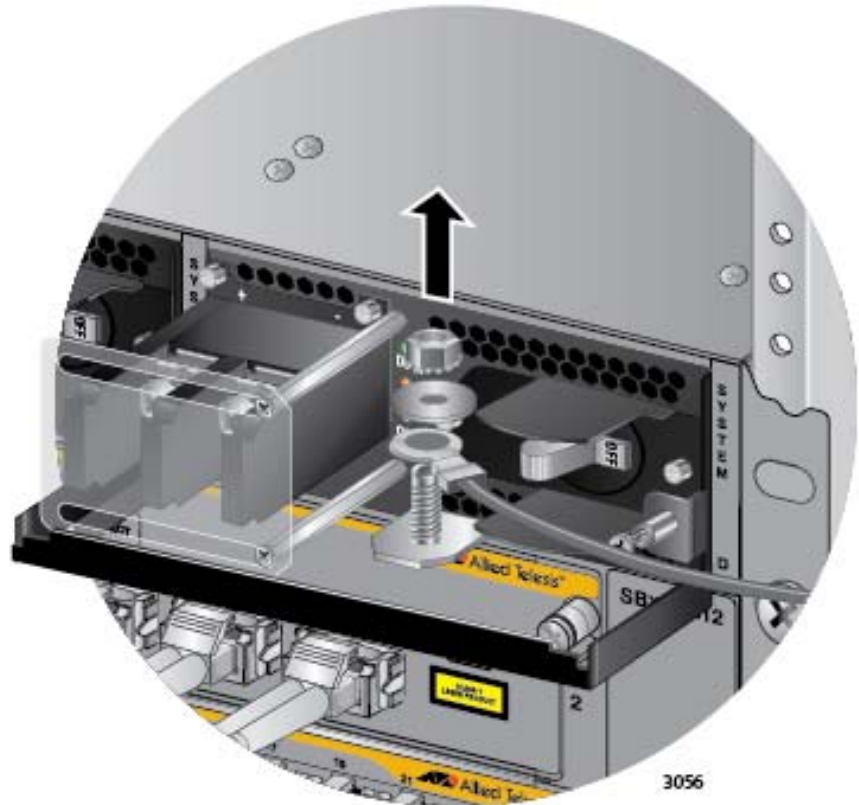

Figure 151. Removing the Grounding Wire
9. Use an 8 mm wrench to remove the grounding wire from the grounding post. Refer to Figure 151 on page 233.